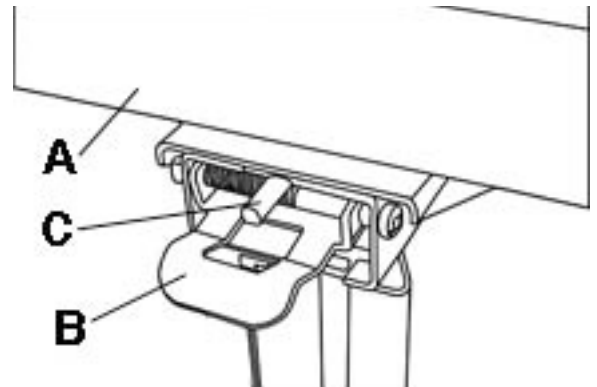

FIGURE 10
To allow the cradle (A) Fig.10 to tilt (for loading a drywall panel, or for raising the panel to a side wall or sloped ceiling), or to remove the cradle from the frame, pivot the tilt latch (B) out and down as shown. To lock the cradle in position, pivot the latch upwards to engage the stud (C) on the cradle.
- 4) Release the tilt latch to tilt the cradle, see Fig.10.